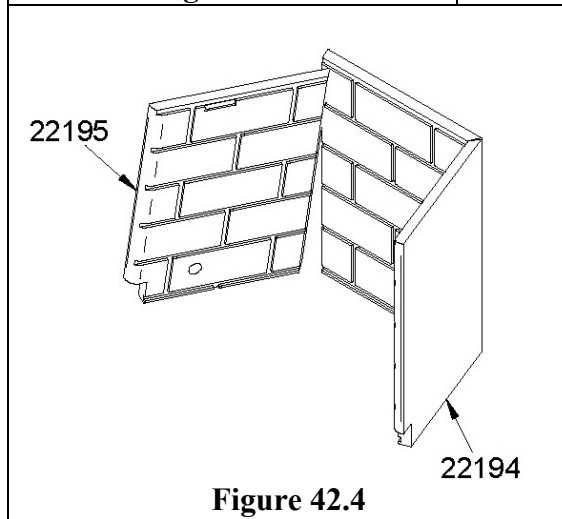

Figure 42.4
4. Remove the left and right side refractory panels (22195 and 22194). Figure 42.4